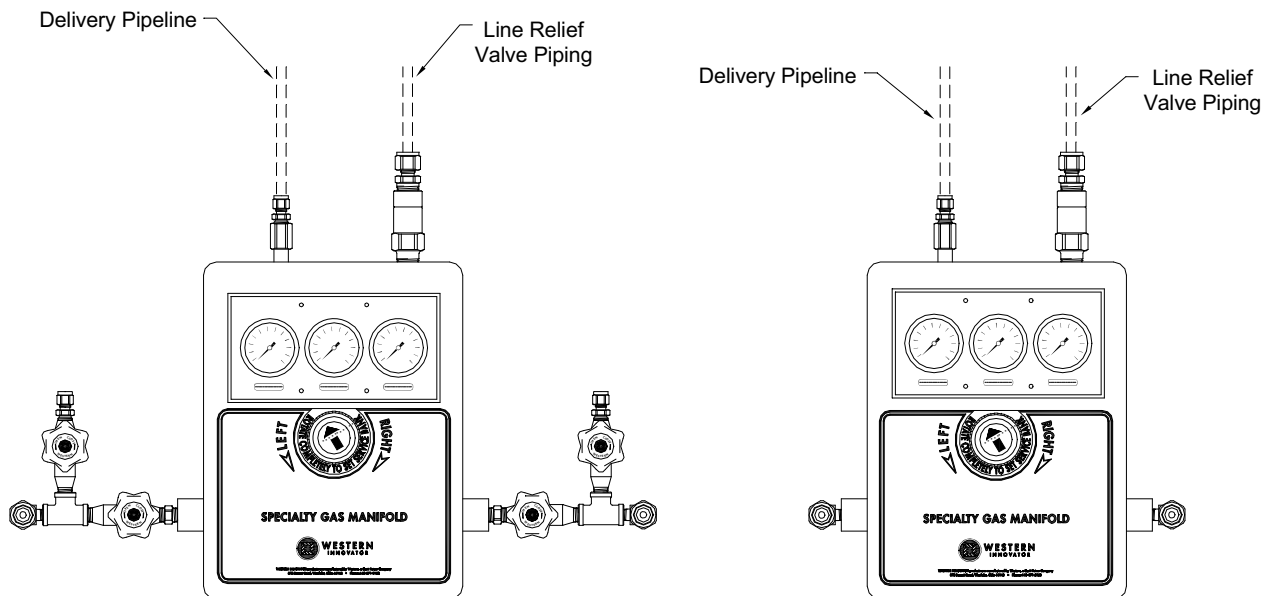

FIGURE 10
1. A 1/4" O.D. tube compression fitting is supplied with the control and is located at the upper left side of the manifold control. Connect this union to the pipeline system. Sweat joints must be silver soldered. Use BAg-1 specification silver solder (DO NOT USE SOFT SOLDER). Heat the entire joint evenly. Apply enough heat favoring heavy sections, so that solder flows freely around the joint leaving no pin holes. The compression fitting provided permits removal of the manifold control for service. (Figure 10)